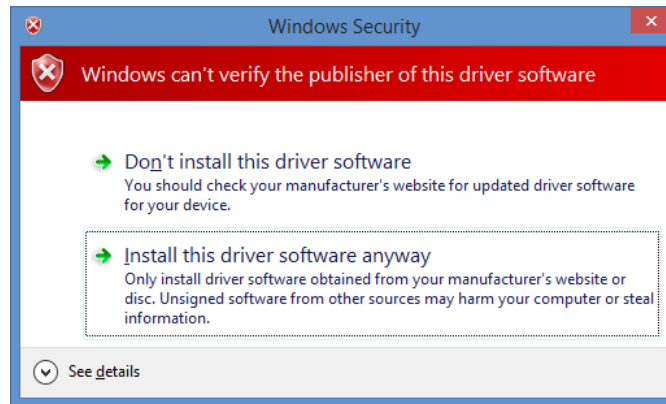

Figure 6 Hardware wizard. Install driver manually
6. If the **Windows Security** window appears, select **Install this driver software anyway** Figure 6